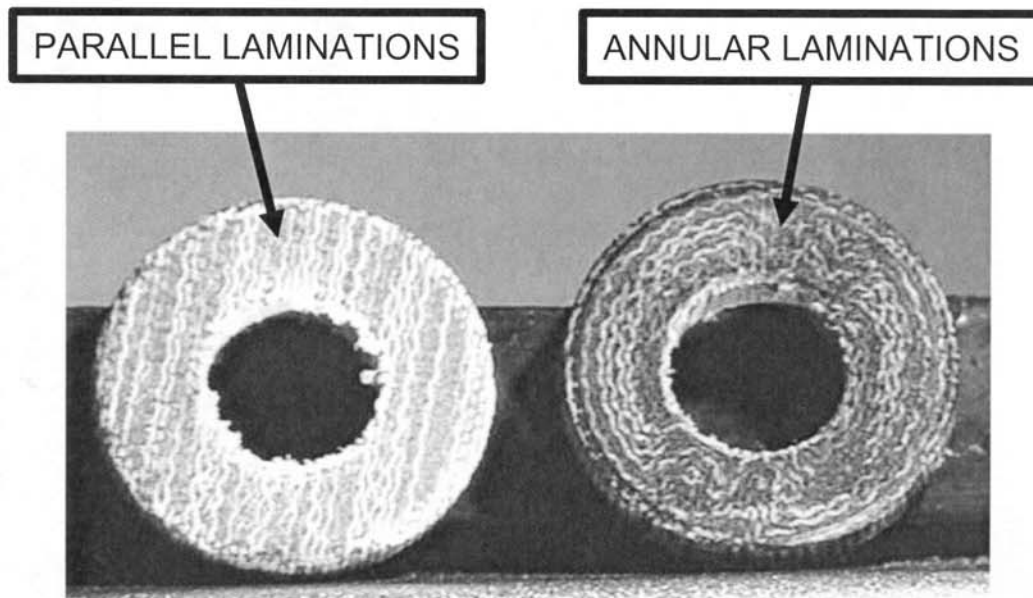

FIGURE 1
- (a) Inspect the P/N 10-361639 tachometer insulating bushings for cracks, crushing or other damage. Current bushings use phenolic material that is laminated in an annular (circular) pattern. (Reference Figure 1)